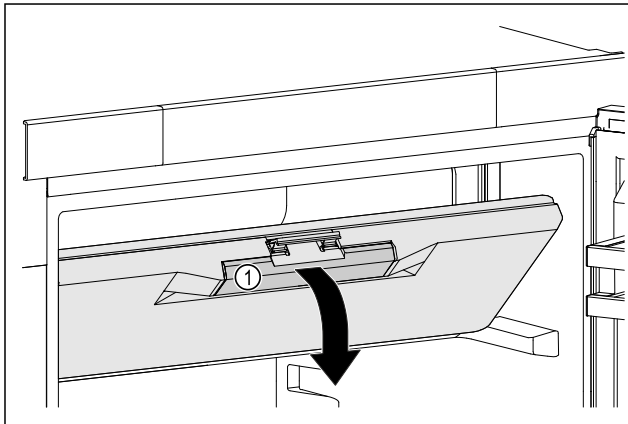

Fig. 23
- ▶ Hold the freezer compartment door by the recessed handle Fig. 23 (1).